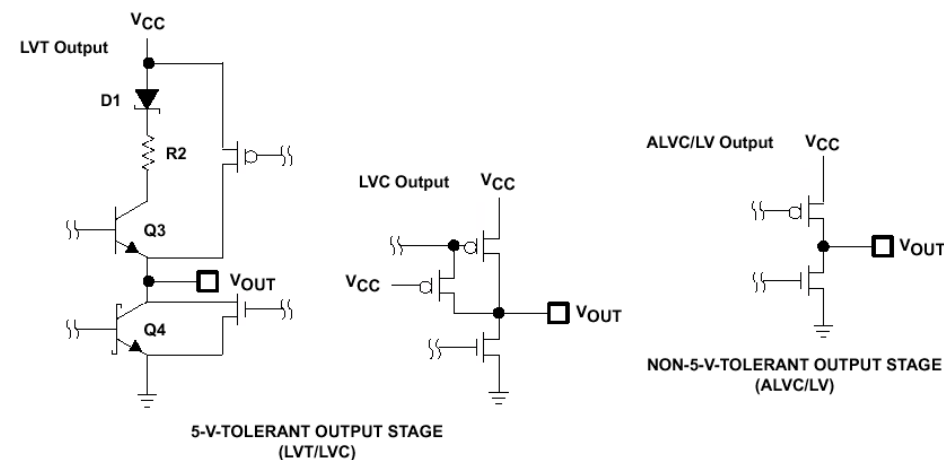

Figure 7.4 BiCMOS/CMOS outputs
- Figure 7.4 shows a simplified LVT output and illustrates the mixed-mode capability designed into the output stage.
Figure 7.4 also shows a simplified LV, LVC, and ALVC output stage.